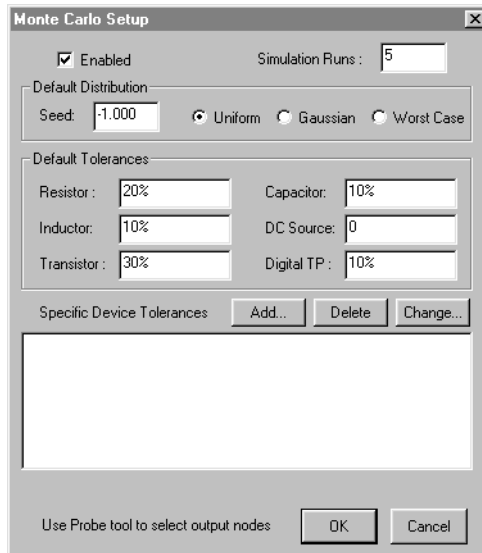
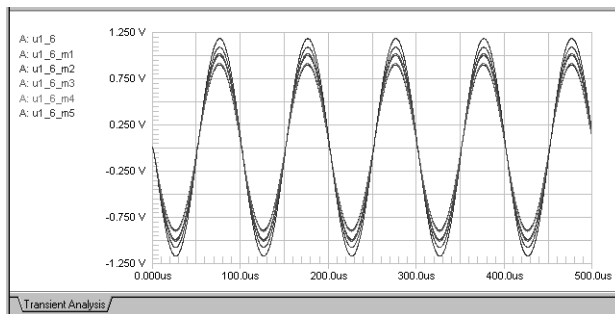

Figure 6.30. Use this dialog box to set up Monte Carlo Analysis.
Figure 6.31. Waveforms for the Monte Carlo Analysis.
- 2 Click the **Monte Carlo** button to display the dialog box pictured in Figure 6.30.
The waveform in Figure 6.31 was generated by simulating the Analog.ckt circuit using the values shown in Figure 6.30. Notice that this analysis randomly varies the component values within the specified tolerances, and then plots the output voltage of the five simulation runs, including the input and output voltages for the nominal run. See *Using the*
To run an Impedance Plot Analysis, run a standard simulation, then click the source's negative terminal with the **Probe Tool**. An impedance plot appears in the selected analysis window. This is especially useful to measure input and output impedance versus frequency in the AC Analysis window. The impedance measurement is calculated from the voltage at the supply's positive terminal divided by the current out of that same terminal (see Figure 6.30). Clicking the positive terminal of a supply is already defined as an operation to plot current, thus the negative terminal must be clicked on for impedance.